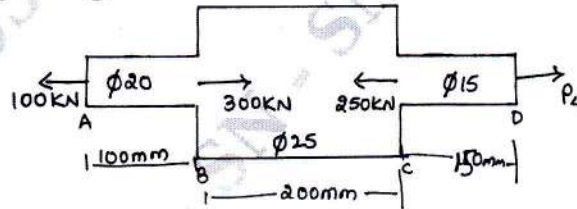

Fig. Q1(c)
- c. Determine the stresses in various segments of the circular bar shown in Fig. Q1(c). Compute the total elongation taking Young's modulus to be 195 GPa. (08 Marks)